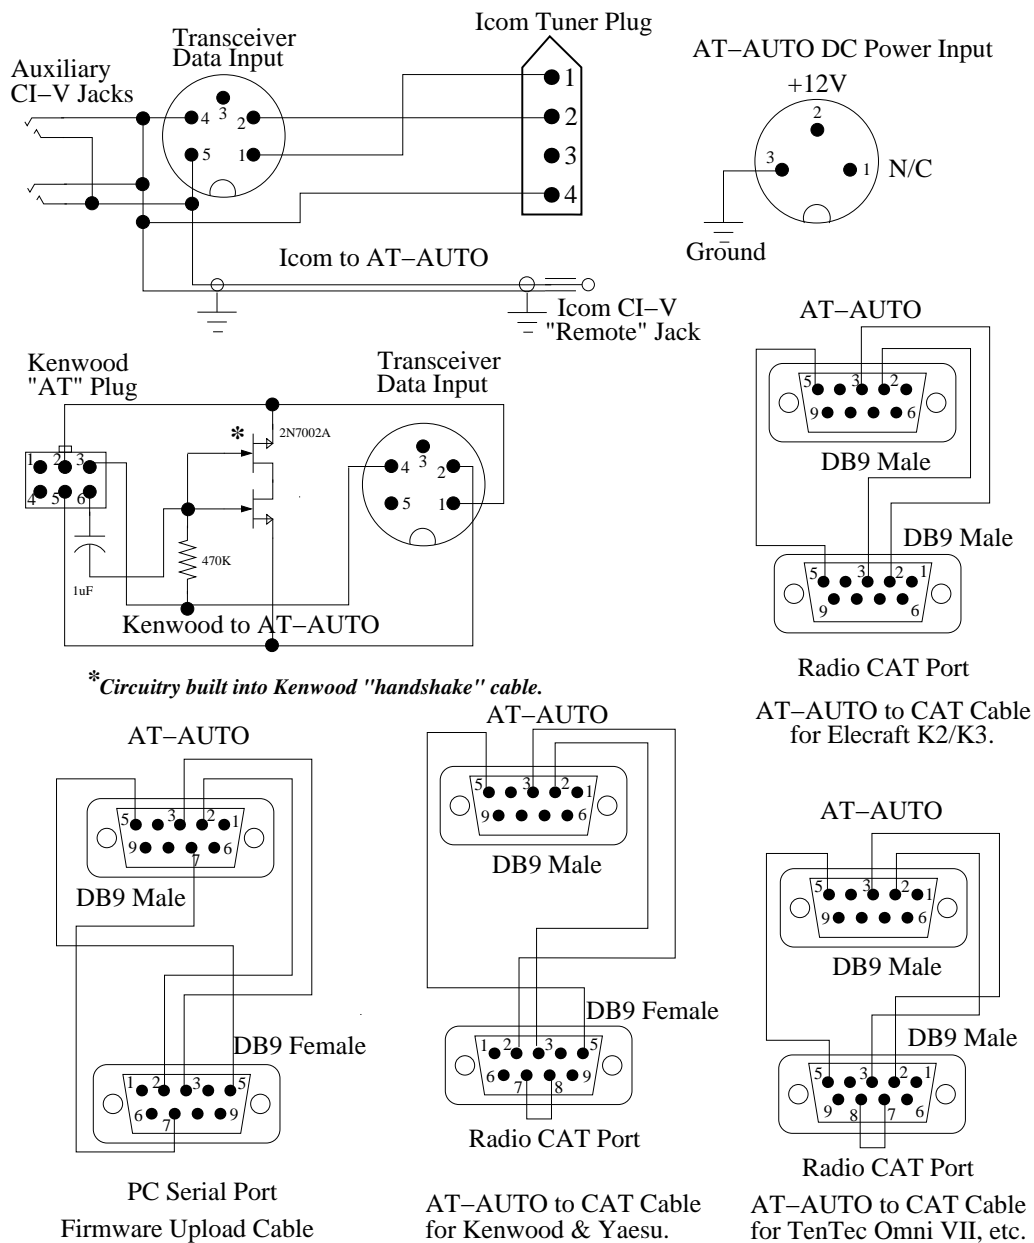

Figure 8.1: Interface Cable Diagrams
5. Connect your AT-AUTO_(tm) to your PC’s RS-232 serial port with the Kessler Engineering-supplied “Firmware Upload Cable” (See Figure 8.1 on page 81).
The AT-AUTO_(tm) is capable of controlling the low-power, constant carrier generation capability built into some Icom and Kenwood radios. This *External Tuner Handshake* requires connection of the AT-AUTO_(tm) with either the Icom's "tuner" interface or the Kenwood's "AT" interface. Do NOT attempt AT-AUTO_(tm) - radio interfacing via the "Data/Handshake" connector with non-Icom or non-Kenwood radios. Kenwood radios require additional external circuitry in order for the handshake feature to operate. Figure 8.1 on page 81 illustrates the handshaking cables used for Icom and Kenwood radios.
Kessler Engineering supplies interface cables that are suitable for use with either Icom transceivers, most Kenwood, some Yaesu, several TenTec and Elecraft transceivers. The information supplied in this section is provided to enable AT-AUTO_(tm) owners to construct their own interface cables. Rear panel connector pinouts are provided in Table 8.1 on page 80, and Figure 8.1 (page 81) provides illustrations of the serial data interfacing cabling.